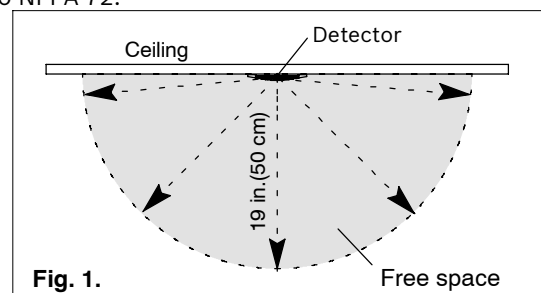

Fig. 1.
- Maintain a hemispherical radius of at least 19 in. (50 cm) around the detector (see Fig. 1.). Insure that this area in front and to the sides of the detector is kept clear of all obstructions (see Fig. 1.).